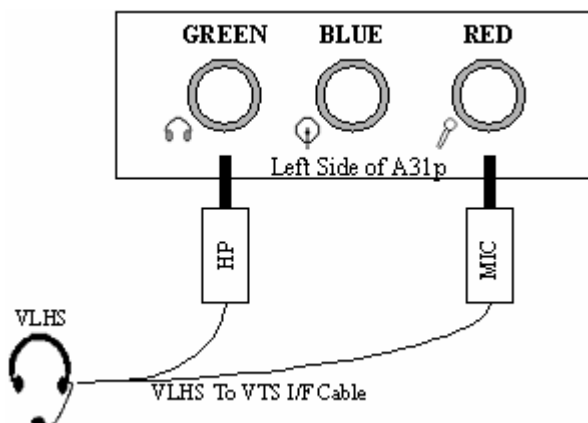

Figure 12-15.- Headset configuration.
3. Configure VLHS To VTS Interface Cable and VLHS as shown in figure 12-15
Connect cable's headphone and mic jacks to PGSC as shown in figure 12-15